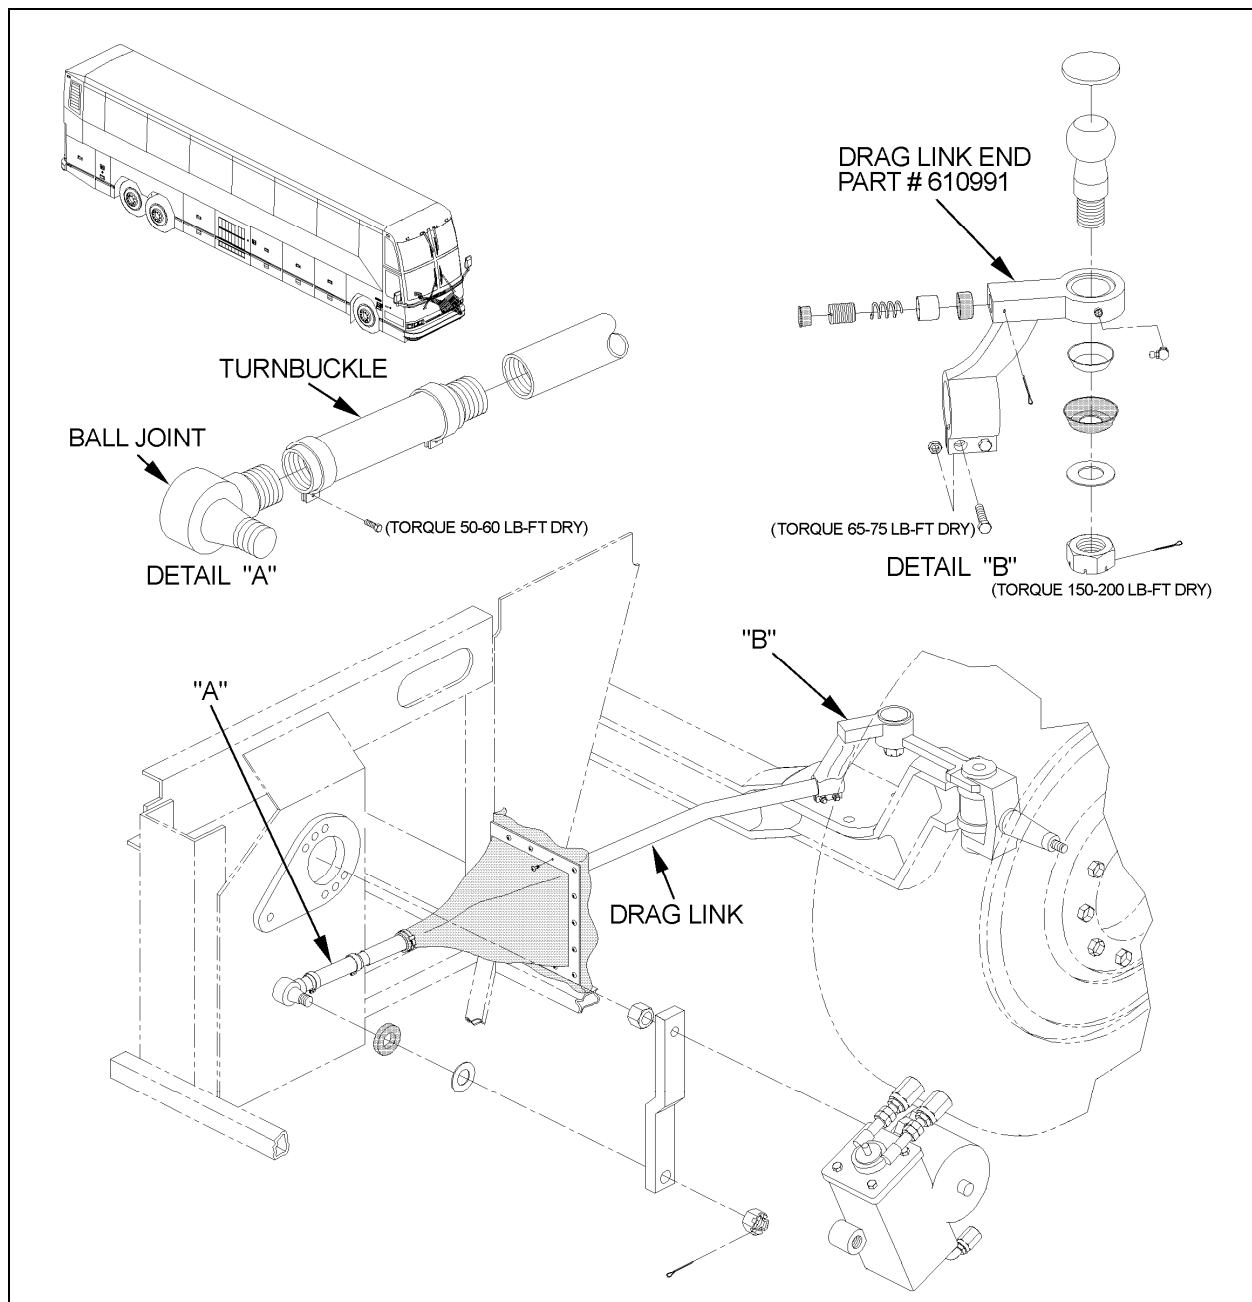

FIGURE 6
1. At drag link spherical plain bearing rod end remove cotter pin from castle nut then remove castle nut (Refer to figure 6).
If this is not the case, unfasten turnbuckle collar nuts on drag link and turn turnbuckle in order to center steering wheel. Retighten collar nuts to 50-60 Lb-Ft dry (Refer to figure 6).